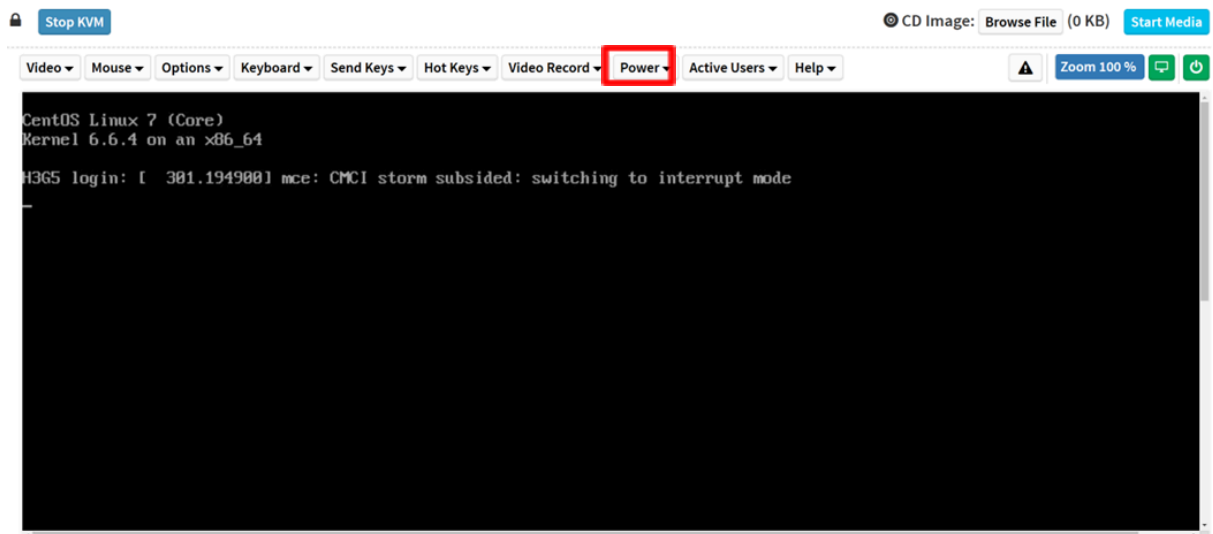

Figure 102. Locating the Power Menu in the KVM Interface Navigation Bar
- A. In the KVM interface, locate the Power menu in the top navigation bar (refer to Figure 102).